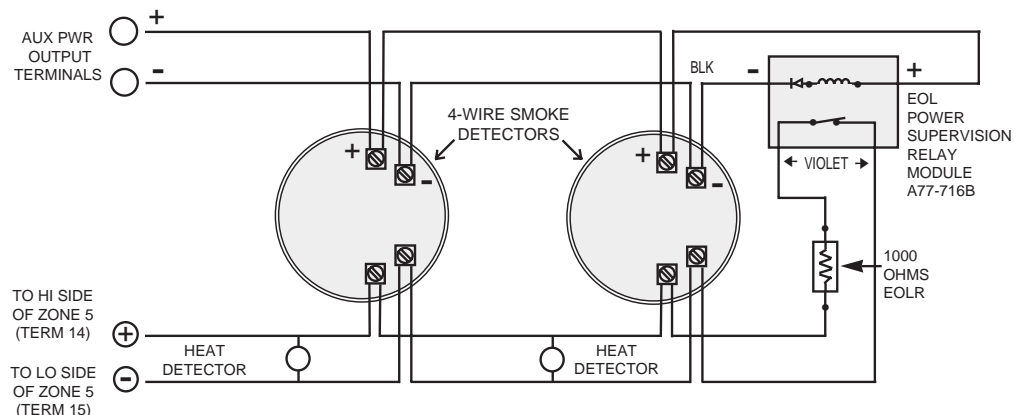

Figure 7. 4-wire Smoke Detector Connections to Zone 5
1. Connect 12 volt power for the detectors from Auxiliary Power terminals 4 and 5, (which will interrupt power for fire alarm reset). Observe proper polarity when connecting detectors. See Figure 7.